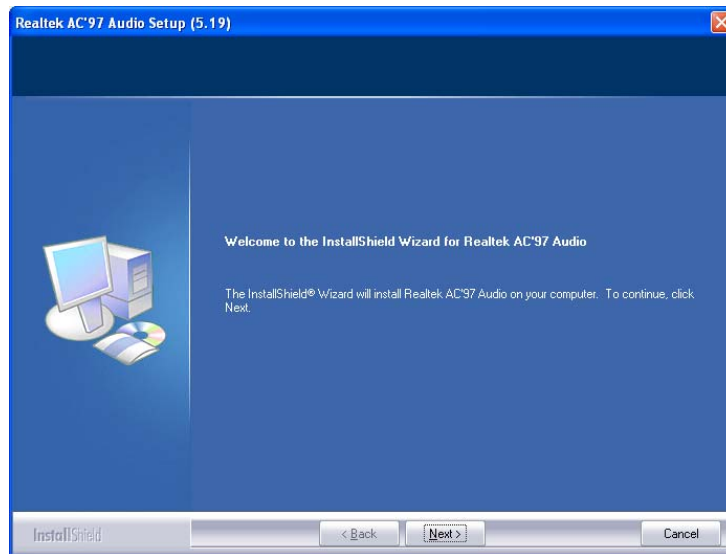

Figure 6-21: AC'97 Driver Installation Welcome Screen
Step 6: The AC'97 Driver Installation screen in Figure 6-21 appears.